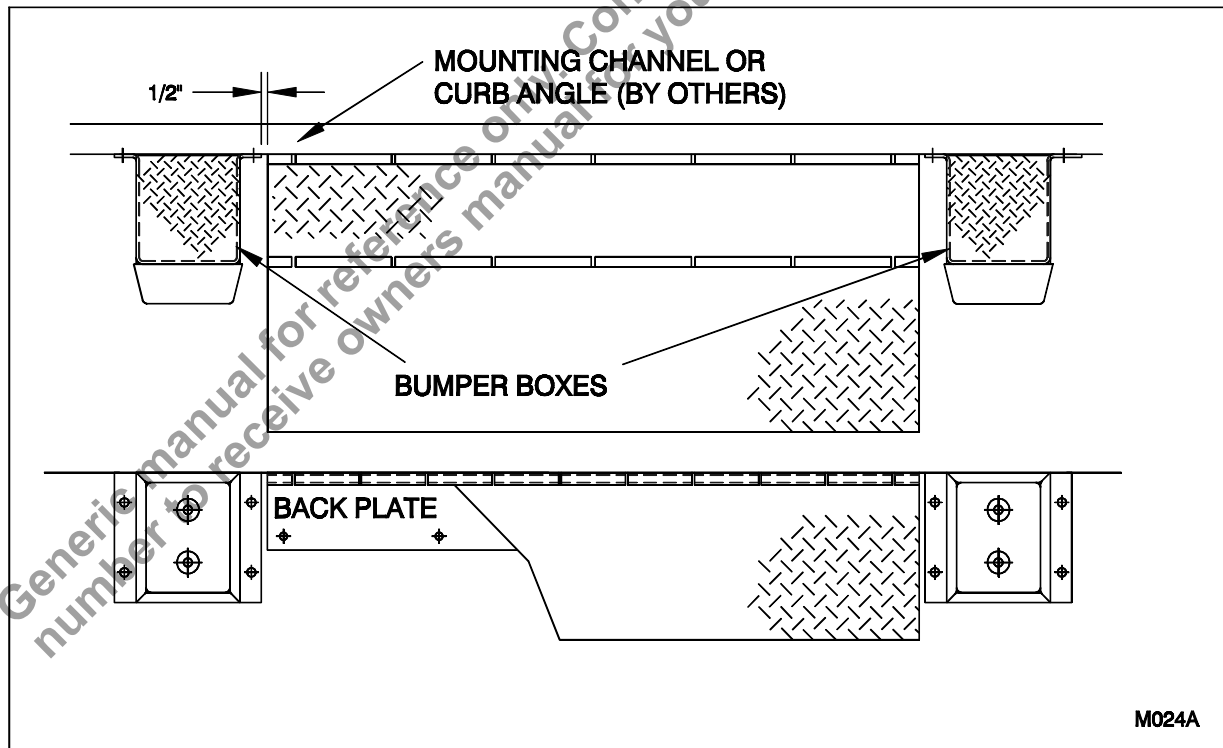

Figure 4: Mounting Channel
(See Figure 4, page 6)
3. Position bumper boxes $\frac{1}{2}$ " from back plate as shown in Figure 4 and tack weld to curb channel/angle.
3. Position bumpers as shown in Figure 4 and lag to mounting surface.